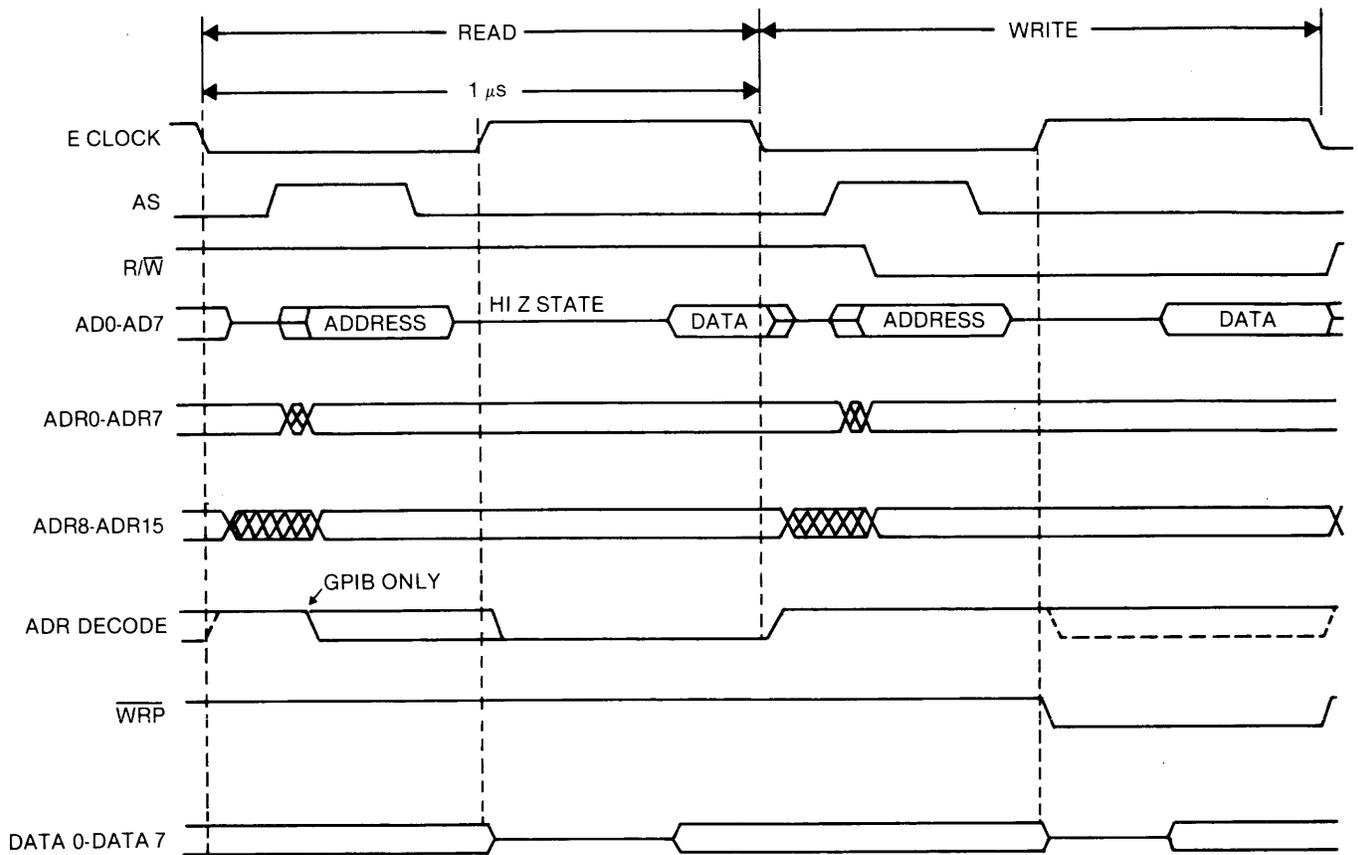

Figure 4-4. Microprocessor Timing Diagram
A clock-generating circuit within the microprocessor uses an external 4 MHz crystal, Y1, between the XTAL1 and XTAL2 pins to develop its internal phase clocks and the 1 MHz system enable clock (E). Figure 4-4 shows the approximate timing for major signals and busses in the microprocessor/memory system. Actual system timing varies somewhat from instrument to instrument, so signal spacing may be different within the $1\ \mu\text{s}$ period of the system clock.
An octal latch, U4, demultiplexes the address/data bus from the microprocessor to hold the low-order addresses (ADR0-ADR7) during the part of the E clock cycle that data occurs on the multiplexed bus. Latching occurs on the negative transition of the AS signal (U3, Pin 39). See timing diagram, figure 4-4.